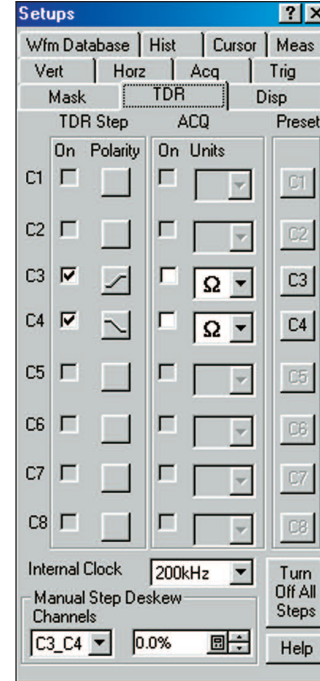

Figure 12. TDR SETUP Menu
- Preset the channels that are associated. In this example it is Ch 3 and Ch 4, as shown in Figure 12.